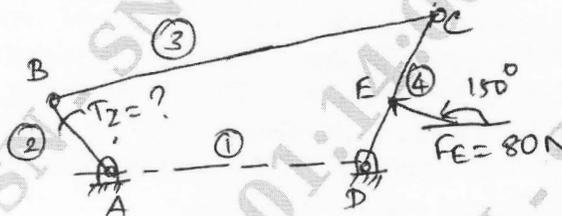

Fig.Q3(a)
- 3 a. A four bar link mechanism is acted upon by forces as shown in Fig.Q3(a). Determine the torque  $T_2$  to be applied on link 2 to keep the mechanism in equilibrium. AD = 50 mm, AB = 40 mm, BC = 100 mm, DC = 75 mm, DE = 35 mm.